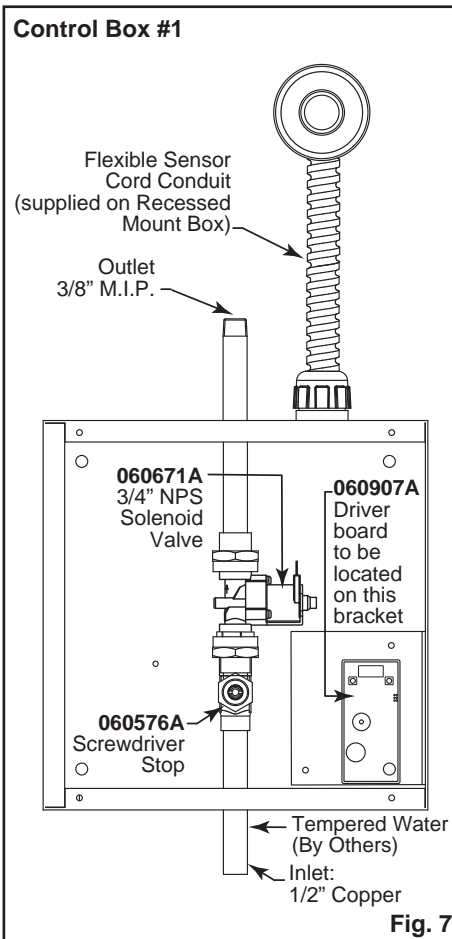
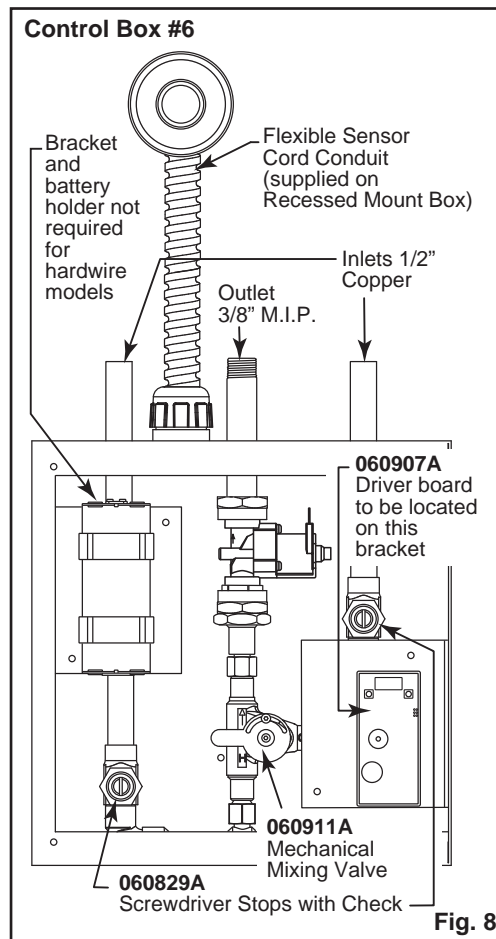
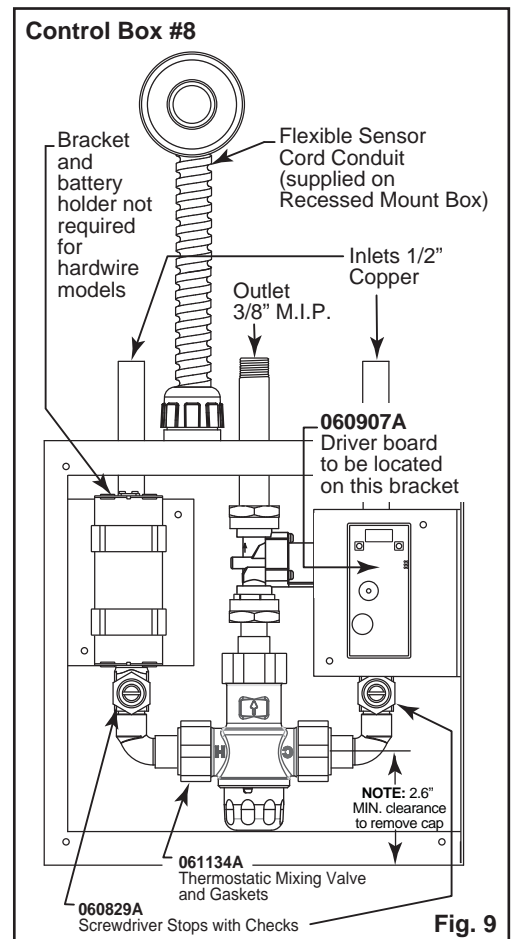
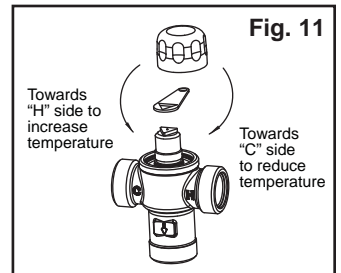

Fig. 7
Fig. 8
Fig. 9
Fig. 11
Install sink and connect drainage to rough in. See applicable Fig. 7, Fig. 8 or Fig. 9. Please note that the connection tube and fittings are supplied by the **installer** to connect the 3/8" MIP at the box outlet and compression joint for 3/8" O.D. soft copper tube at the spout. Connect water supply through to spout. Ensure supply lines are completely flushed and free of debris.
- 4C** If **Mechanical Mixing Valve** (060911A) (**Fig. 8**) Adjust setting to the desired temperature and lock in place by tightening the vandal resistant screw.
If **Thermostatic Mixing Valve** (**Fig. 9**) To adjust the mixed outlet temperature of the valve, remove the cap to gain access to the adjusting spindle. The spindle should be rotated towards the "C" side to reduce the temperature and towards the "H" side to increase the temperature - until the desired set point is reached (**refer to Fig. 11**).